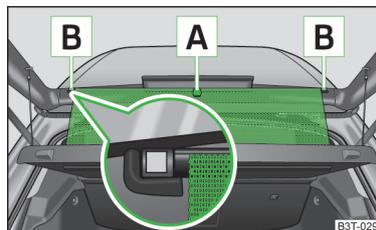

Fig. 61
- Pull the sun screen on the handle **A** » Fig. 61 and hang it in the magnetic brackets **B**.